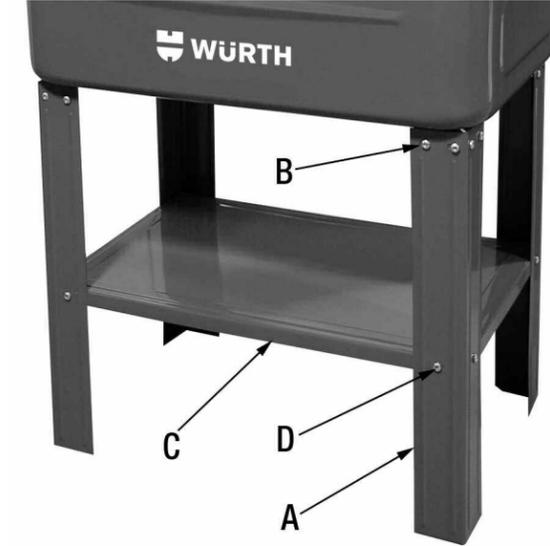
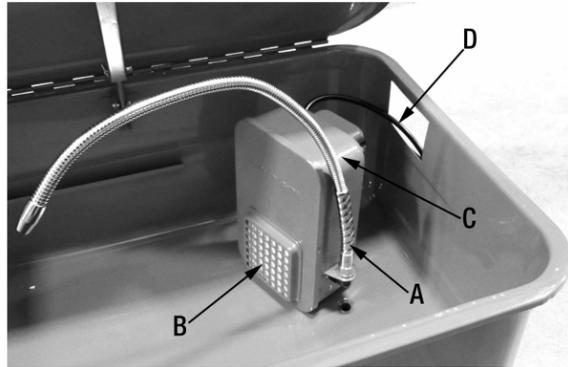

Figure 1
Figure 2
4. Mount four legs (A) Fig.1 on basin brackets using round pan head screws, spring washers and hex. nuts (B). Note: Do not tighten.
5. Place shelf (C) Fig.1 between legs and attach it to the four legs using round pan head screws, spring washers and hex. nuts (D).
6. With legs pressed tight against the shelf, tighten all round pan head screws, spring washers and hex. nuts (D).
7. Tighten all round pan head screws, spring washers and hex. nuts (B).
9. Thread the flexible hose (A) Fig.2 onto the pump housing (C).
10. Install filter screen (B) Fig.2 to pump housing (C). Then place power cord (D) through the opening in the basin.